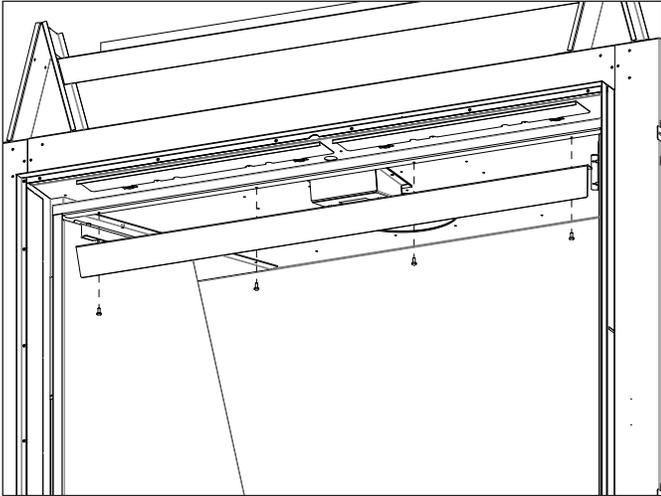

Figure 14: Light Deflector Removal
3. Remove light deflector (see Figure 14).